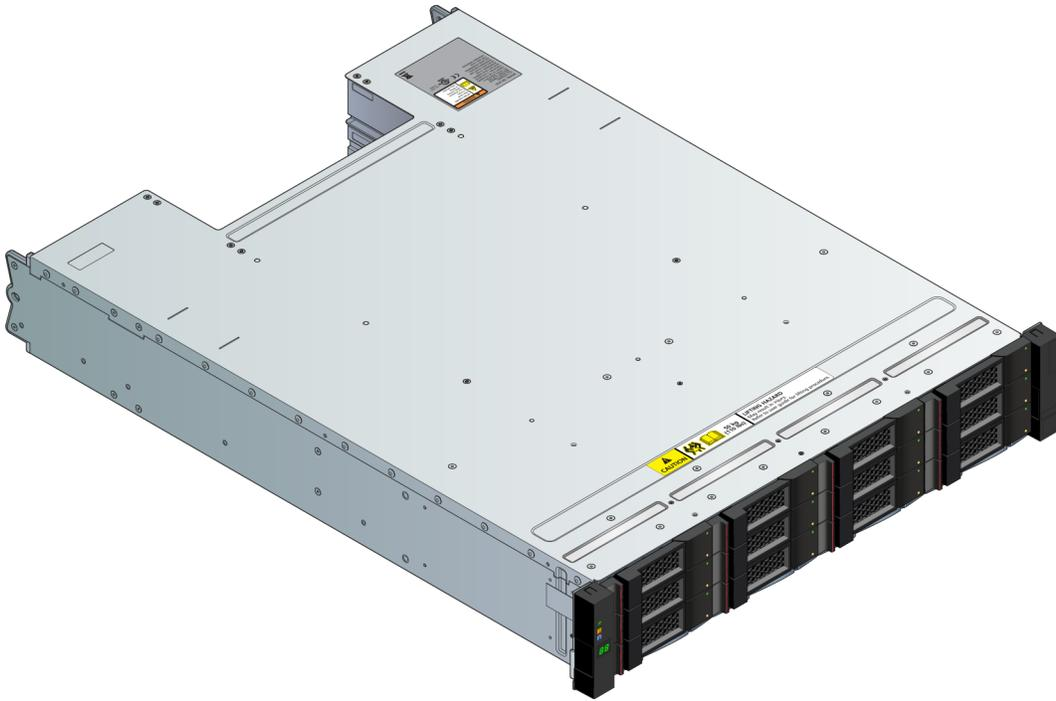
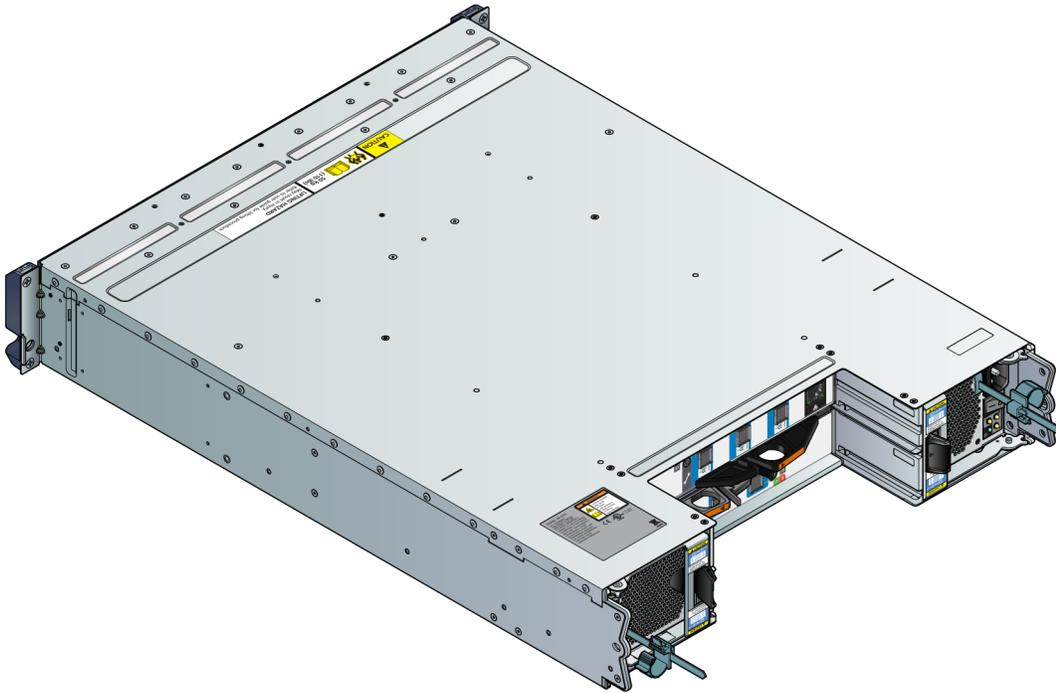

Figure 8. 2U12 Enclosure System – front view
Figure 9. 2U12 Enclosure System – rear view
- 2U (rack space) disk drive enclosure (see Figure 8 “2U12 Enclosure System – front view ” on page 8 and Figure 9 “2U12 Enclosure System – rear view ” on page 8): holds up to 12 low profile (1 inch high), 3.5 inch form factor drives in a horizontal orientation.